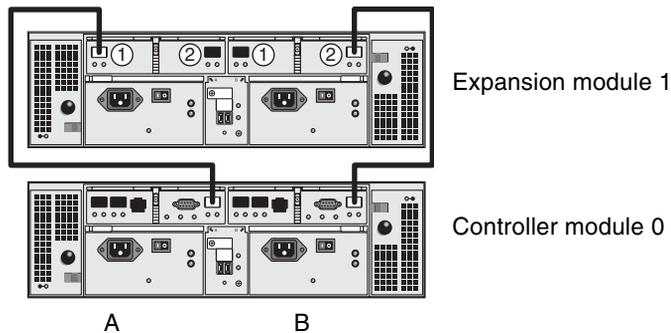

FIGURE 2-21 1x2 Array Configuration Cable Interconnection
3. Connect one FC cable between the A side expansion port of the controller module and the A side port 1 of the expansion module (FIGURE 2-21).
4. Connect one FC cable between B side expansion port of the controller module and the B side port 2 of the expansion module (FIGURE 2-21).